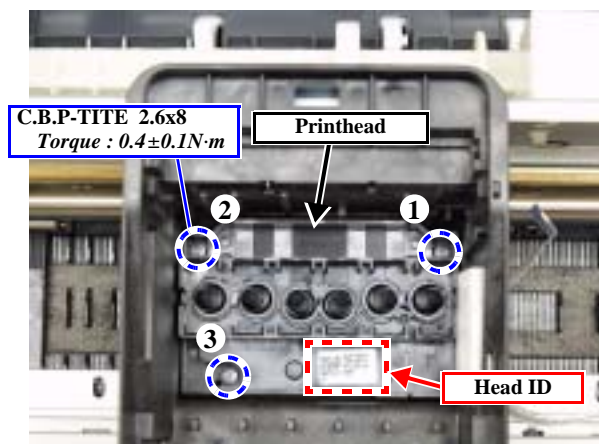

Figure 4-32. Removing the Printhead
10. Remove the screws (x3) securing the Printhead. (Fig. 4-32)
- When installing the Printhead, tighten the screws in the specified order. (Fig. 4-32)